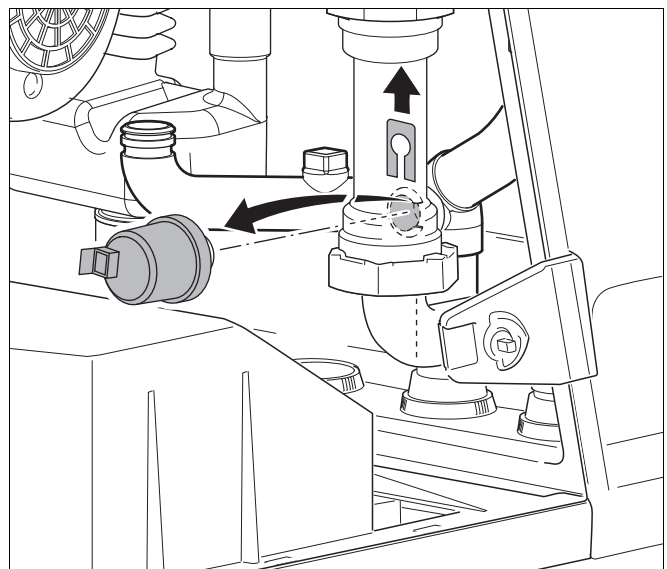

fig. 84 Loosening the pressure sensor
- Loosen the pressure sensor by removing the securing clip (see fig. 84).